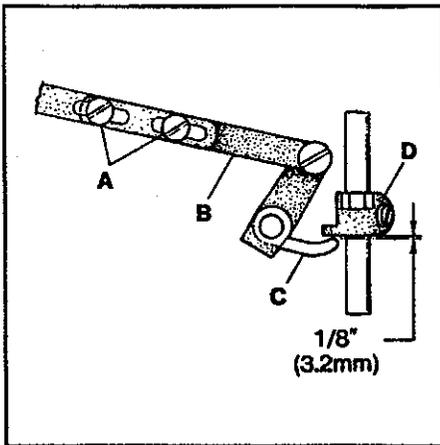

FIG. 21
Replace the presser spring and the presser bar regulating screw. Loosen screws (A, Fig. 21) in lifter lever link assembly (B) and position lever (C) so there is  $1/32$ " (0.8mm) clearance between it and presser bar guide (D) when the feed dogs are below the throat plate.
Make sure the  $1/32"$  (0.8mm) clearance between the presser bar lifter lever and presser bar guide has been maintained. Refer to Fig. 21 if readjustment is necessary.